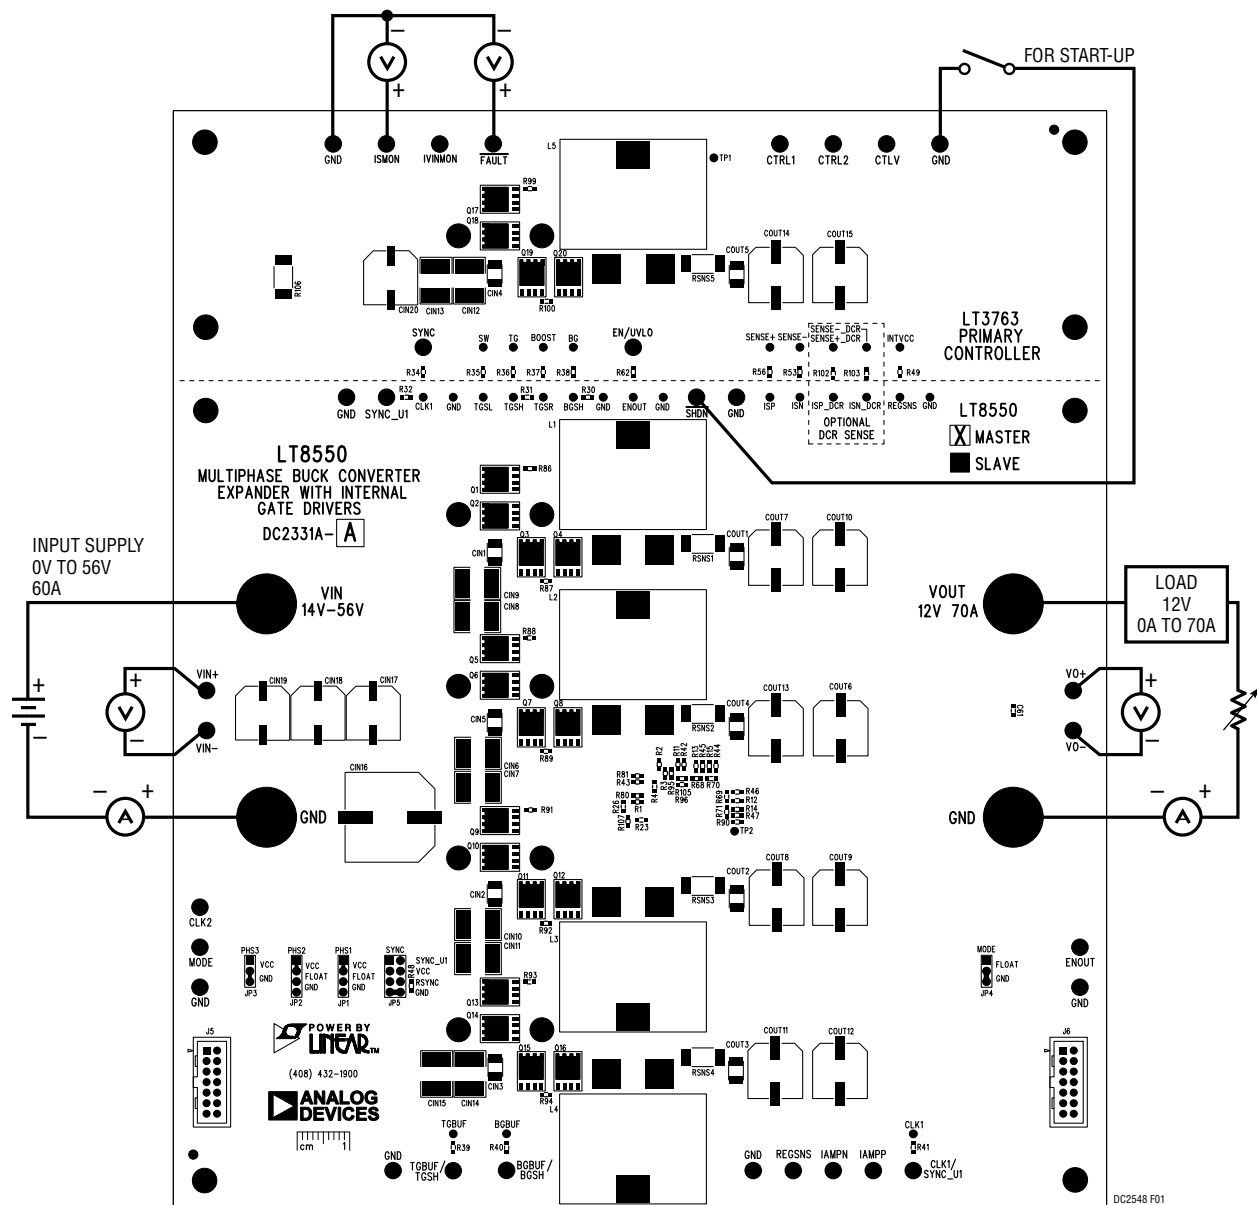

Figure 1. Proper Equipment Setup for DC2331A-A
6. Connect the input power supply with power off, load and meters as shown in Figure 1, Proper Equipment Setup for DC2331A-A. See the next section, Power Connections Between Assemblies and Optional Heatsinks, for tips on how to connect input and output power.